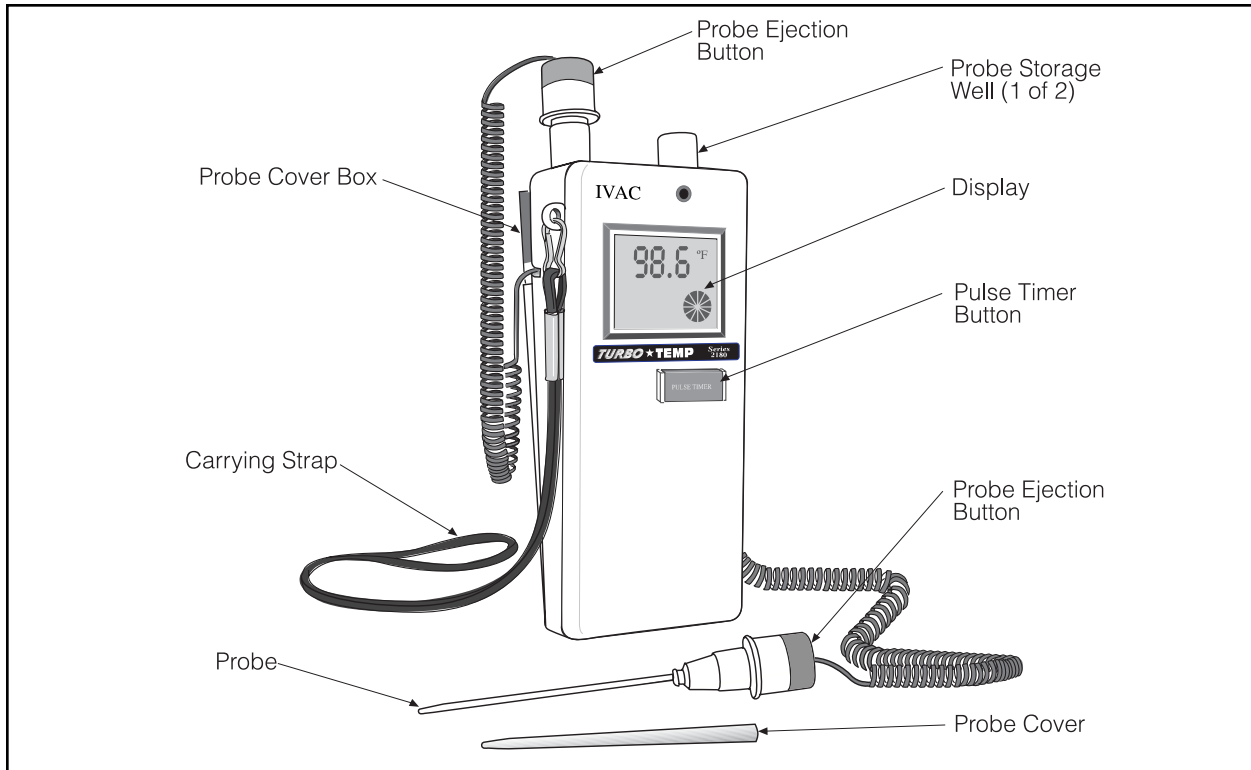

Figure 1 - Features
- Figure 1/1a Features . . . . . 1,2